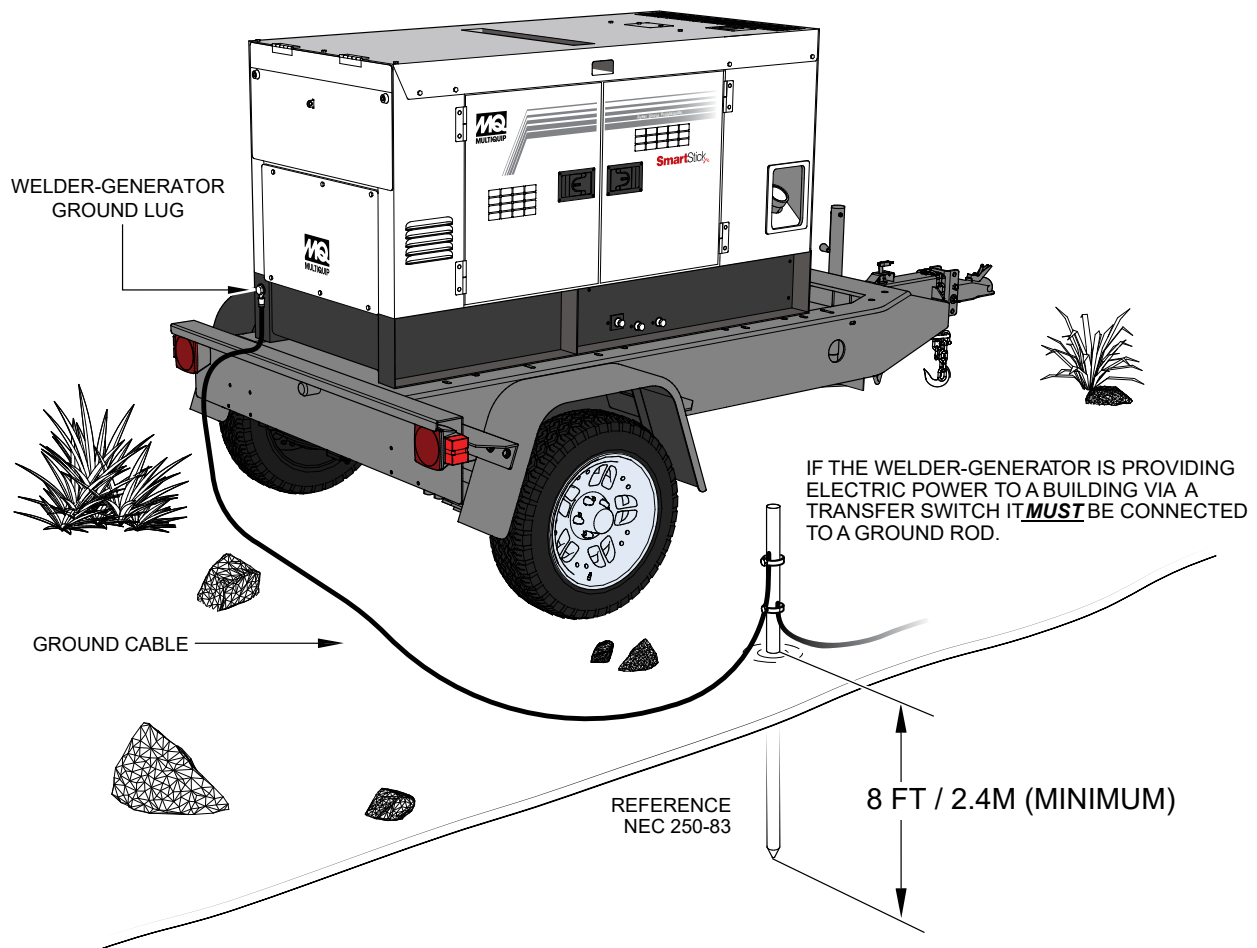

Figure 3. Welder-Generator Grounding Application
Connect one end of the ground cable terminal to the welder-generator ground point (Figure 3). Connect the other end of the ground cable to a suitable earth ground (ground rod).
The Occupational Safety and Health Administration (OSHA) and the National Electrical Code (NEC) recommend that if the welder-generator is providing electrical power to a structure (home, office shop, trailer or similar) it **must** be connected to a grounding electrode system, such as driven ground rod (Figure 3).
If applicable, to guard against electrical shock and possible damage to the generator, it is important to provide a good **EARTH** ground, (Figure 3).
2. When grounding of the generator (Figure 3) is required, connect one end of the ground cable to the ground lug on the generator. Connect the other end of the ground cable to the ground rod (earth ground).